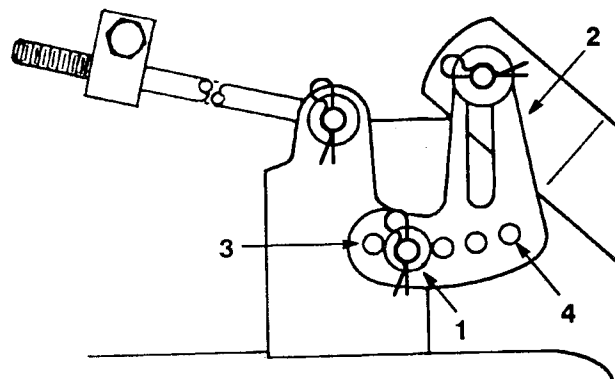

Figure 47
5. Remove the hair pin cotter and washer from the leveling bracket (Fig. 47). To level the blade(s), reposition the leveling bracket in a different hole and install the washer and hair pin cotter. (Fig. 47). A front hole lowers the blade height and a rear hole raises its height. Repeat this procedure on the opposite side.